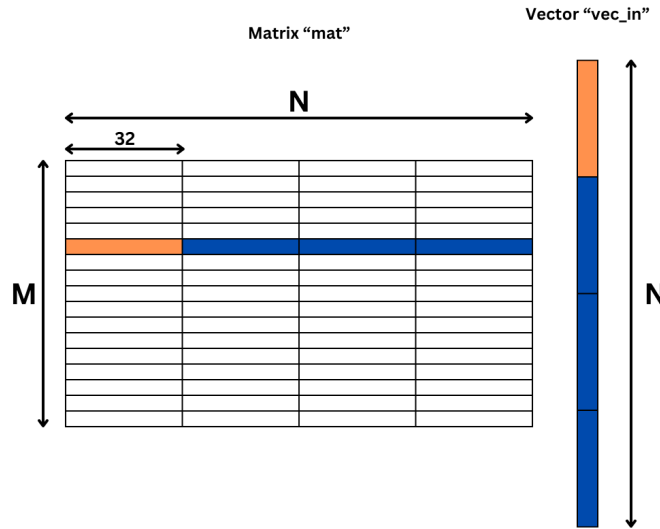

Figure 1: Calculation performed by a warp being highlighted in color.
In this case, `WARPS_PER_BLOCK` is 32 since the block size is set to 1024. With this configuration, I aim to assign one dot product calculation (a product of one row of the matrix with `vec_in`) to be handled by one warp. All threads within a block will populate the shared memory `shmem_vec_in` using the values from `vec_in`. The way shared memory is populated is that adjacent threads within a block read adjacent values from `vec_in` to ensure coalesced memory access pattern. At the end of this step, the shared memory will be of size N. After shared memory is populated, each warp within a block will perform vector-vector dot product between a particular row of the matrix that it is assigned to and vector `vec_in`. Again, adjacent threads within a warp perform multiplication operation where the operands are adjacent from each other. When the number of columns are more than warp size (32), it needs to perform this multiplication operation again until N multiplications are performed. These steps are illustrated on figure 1. At the end, we have 32 summation values from each threads.